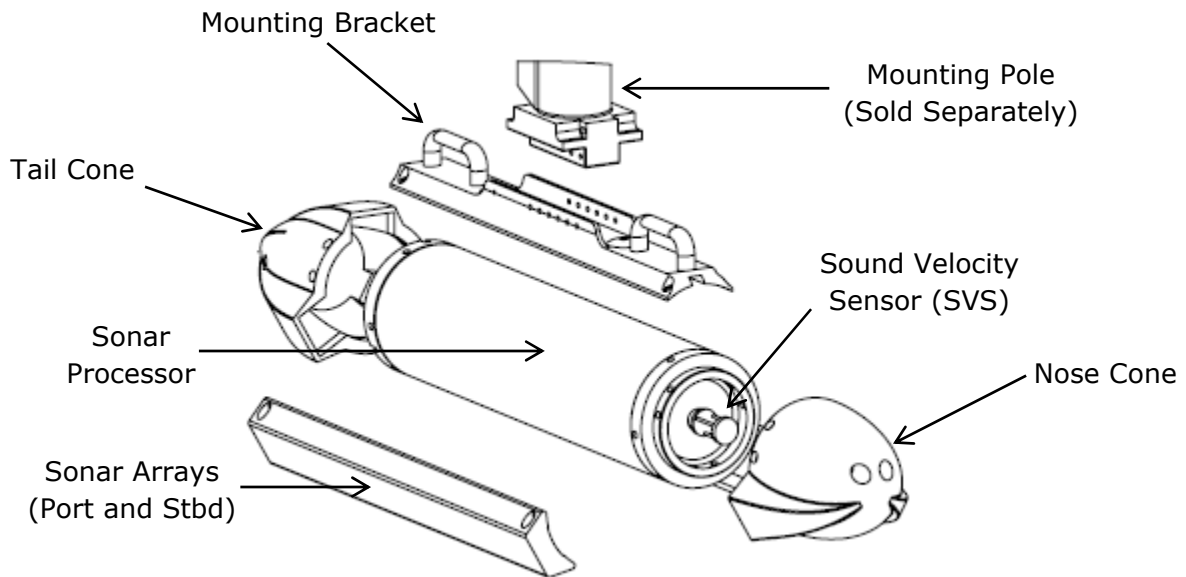

Figure 11: Sonar Head Components (Deck Cable Not Shown)
1. Secure the Nose Cone to the front of the Sonar Processor using six $\frac{3}{8}$ – 16 x $\frac{3}{4}$ inch socket cap screws and a $\frac{5}{16}$ inch Allen wrench. The front of the system can be identified by the section of the cylindrical body that houses the SVS (Figure 11).